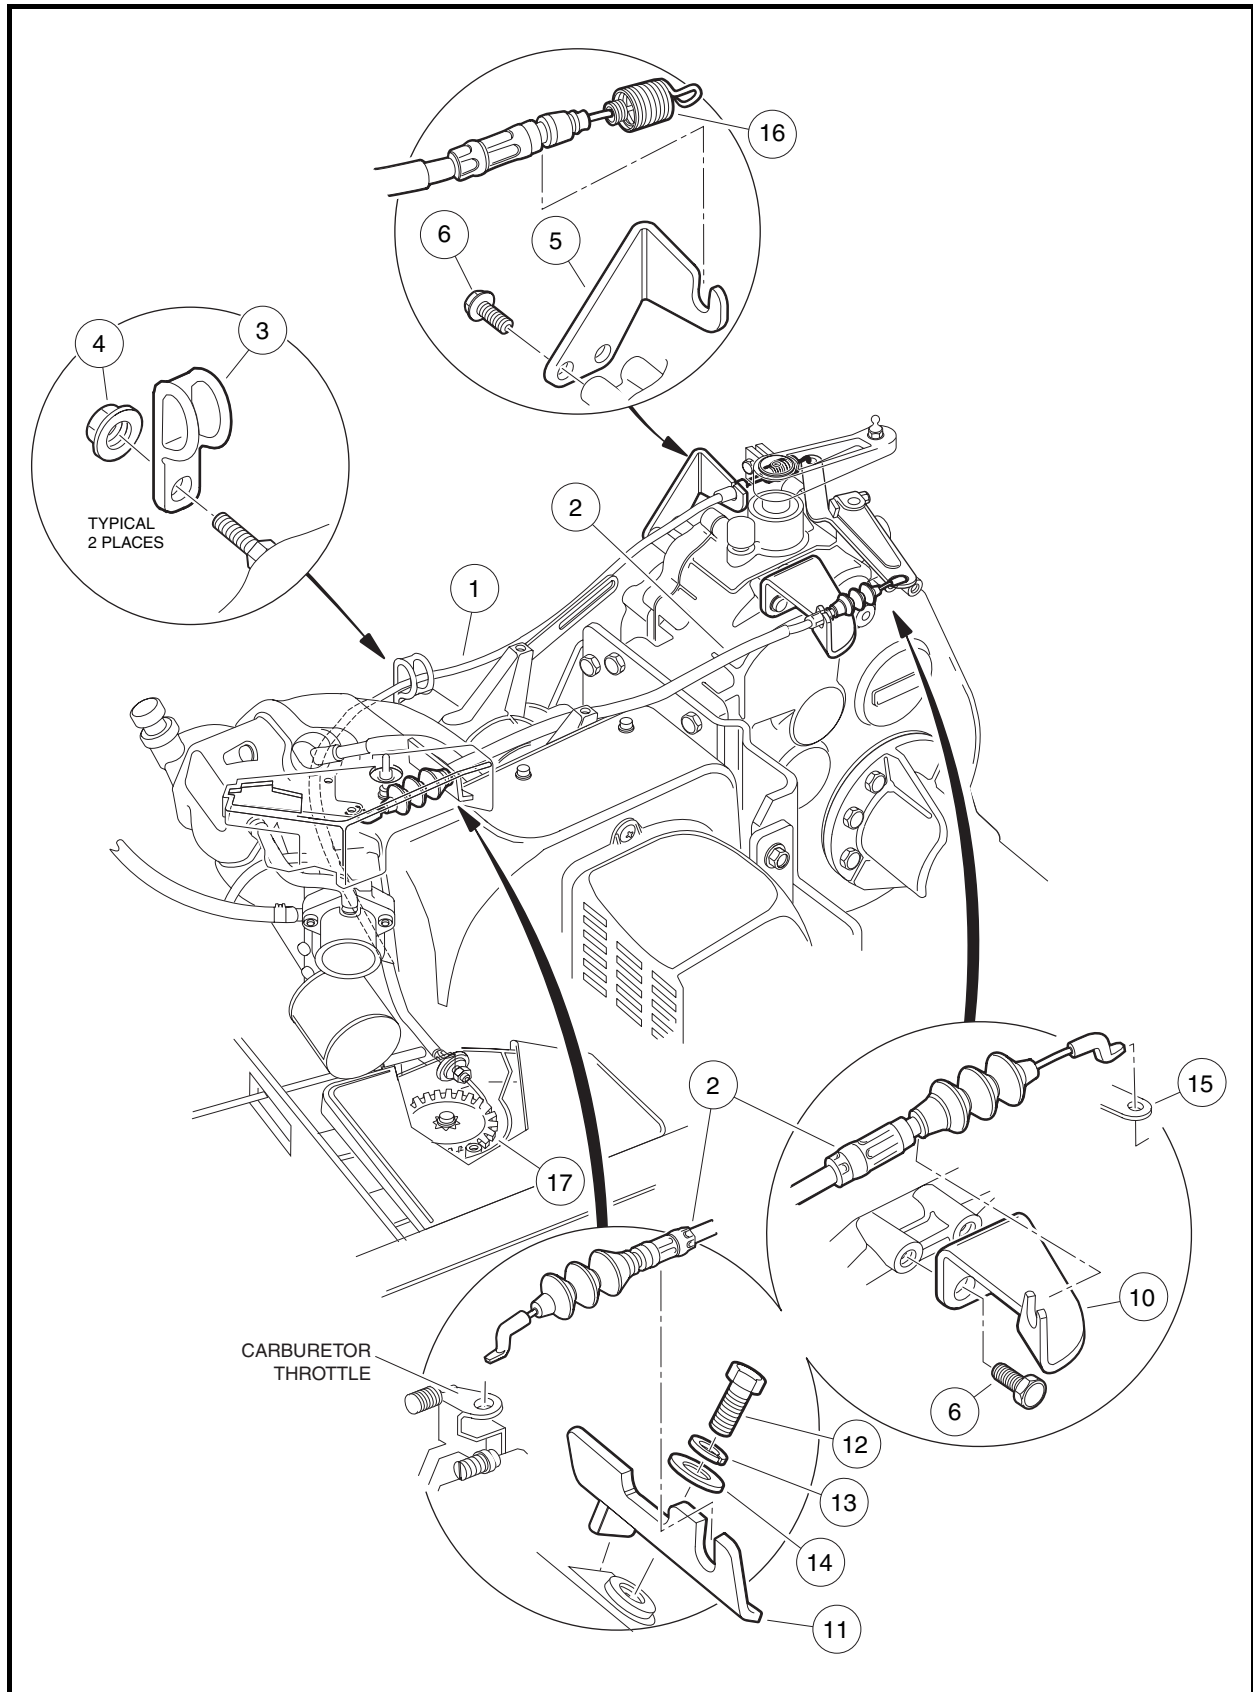

Figure 14-7 Governor and Accelerator Cables
4. Disconnect the governor cable (2) at the carburetor throttle (**Figure 14-7, Page 14-10**).
5. Disconnect the governor cable (2) from the governor lever arm (15).
6. Remove the governor cable (2) from the governor cable engine bracket (11), and governor cable support bracket (10) (**Figure 14-7, Page 14-10**). Remove the cable (2) from the vehicle.
1. Install the cable onto the governor cable support bracket (10) and the engine bracket (11) (**Figure 14-7, Page 14-10**).
4. Connect the governor cable to the governor lever arm (15).
2. Disconnect the accelerator cable (1) from cam (17) in the electrical box (**Figure 14-7, Page 14-10**).
3. Disconnect the spring (16) from the engine governor arm.
4. Remove the accelerator cable from the accelerator cable bracket (5). Remove the cable assembly from the vehicle.
1. Connect the cable to the cam (17) in the electrical box (**Figure 14-7, Page 14-10**).
3. Connect the spring (16) to the engine governor arm (**Figure 14-7, Page 14-10**).
4. Install cable in accelerator cable bracket (5).